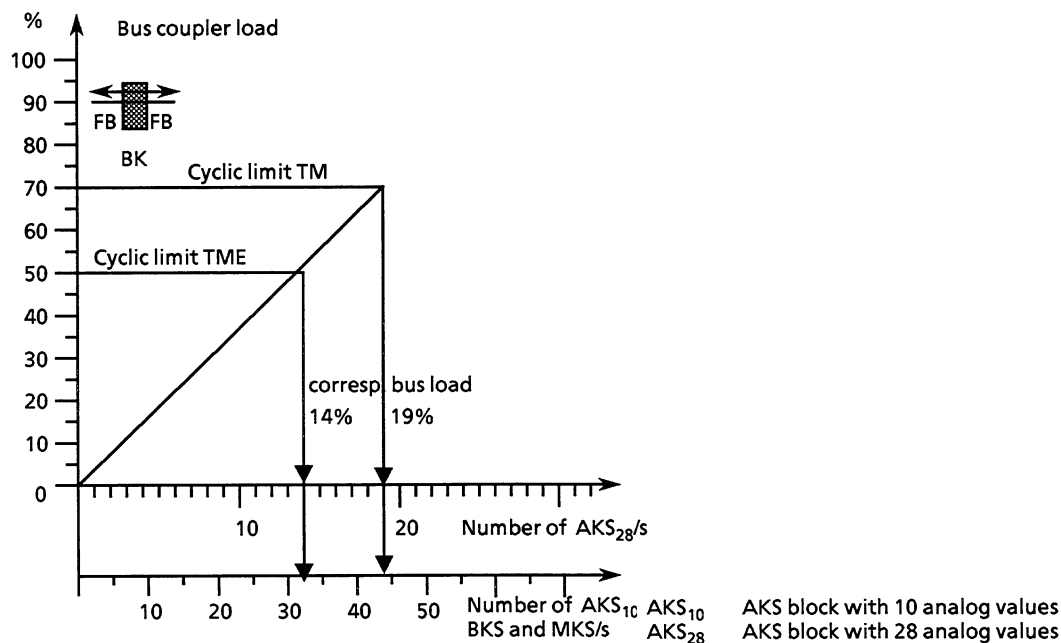
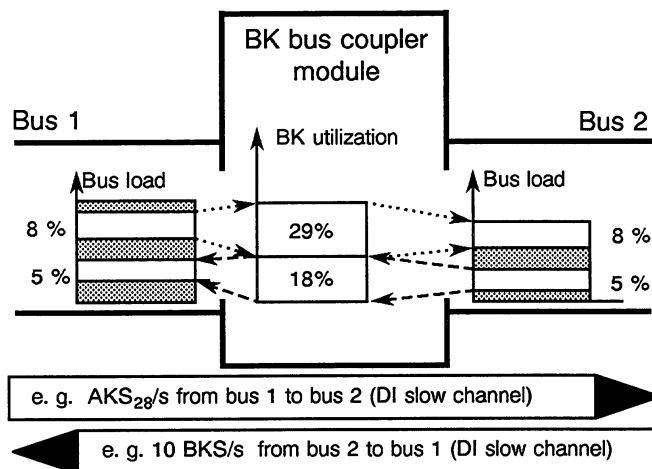

Bild 8 Bus coupler module load characteristic curve for a single bus coupler module
Fig. 10 Data exchange between bus 1 and bus 2 via bus coupler module; ratio of the bus and bus coupler module load (example: single bus coupler)
The bus coupler module performance data can be seen in Figs. 8 and 9. It should be noted here that only 70% (TM) / 50 % (TME) of the maximum power of a bus coupler module should be used for **cyclic communication**. It is thus ensured that sufficient reserve capacity is available for controlling load bursts (increased number of acyclic messages, in particular, during a process-related failure, for example).
- Bus coupler module load characteristic curve for a single/redundant BK bus coupler module. The characteristic curve in Fig. 8 shows how many AKS₂₈ / MKS / BKS/s can be linked between two remote buses. This limitation applies for transfer in one or both directions with any data quantity ratio.
Please remember that any message which is transferred from one bus via the bus coupler module to another bus must be included in the bus load calculation of both bus systems (Figs. 10 and 11).
- Determine the bus coupler module load using bus coupler module performance data (Figs. 8/9).
- The load values from Fig. 10 were converted with the characteristic (Fig. 8/9). Use the same procedure for KURV with analog values.
A **single** bus coupler module is installed between bus 1 and bus 3. The characteristic curve (Fig. 8) shows 32% load for 20 BKS/s, 18 % load for 5 AKS/s, i.e. a total load of 50 %.